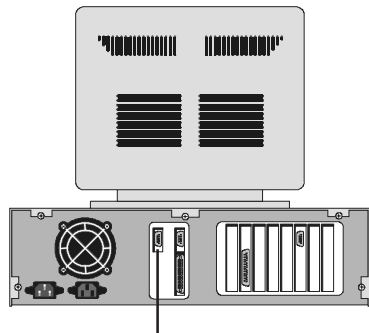

Figure 21
1. Connect the 1/8 inch stereo mini phone plug end of the Upload Data Cable to the jack on the bottom end of the UR12 Remote Control. Refer to figure 21.